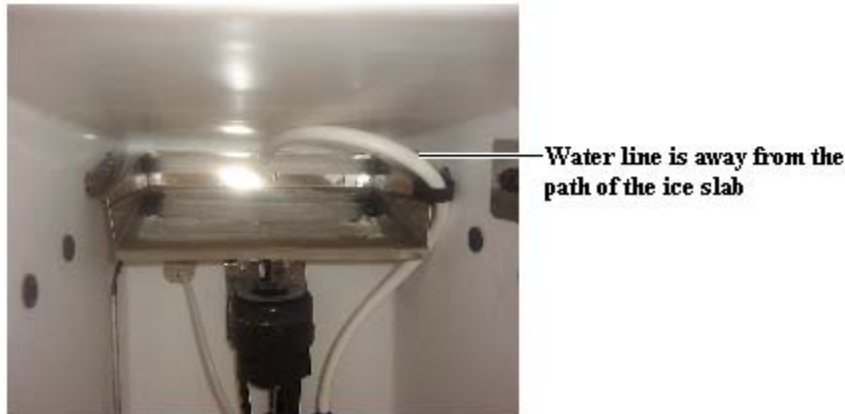

Figure 6.5
5. Route the water line from the circulation pump between the liner and the reservoir. This will keep it away from the path of the ice slab (see figure 6.5)